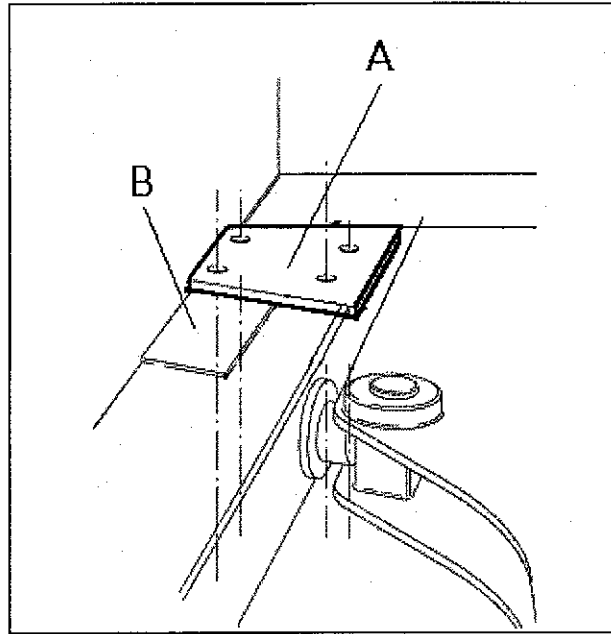

Fig.5
- B. Place the drilled plate 'A' as shown in Fig.5. The square angle must be in contact with the side wall of the cabinet and with the welded reinforcement 'B'. Lock the plate in a safe way with a clamp.
THE DRILLED PLATE ('A' Fig.5) MUST BE LEFT AS A SPACER BETWEEN THE DEVICE AND THE BEAD BREAKER BEAM.